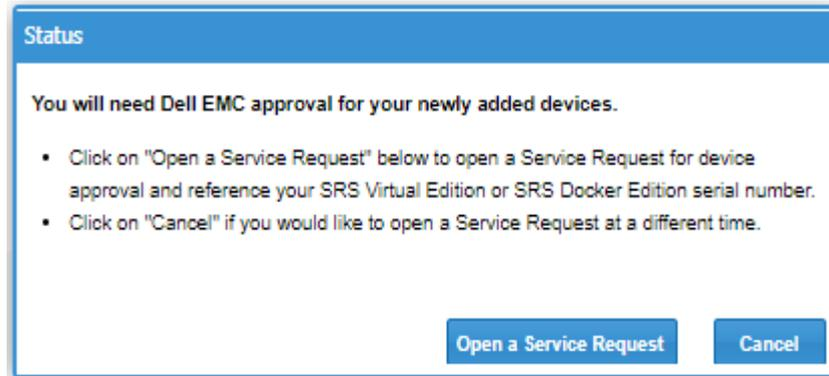

Figure 24 Message box
- Click **Request Update**. A message window appears, as shown in Figure 24 on page 31.